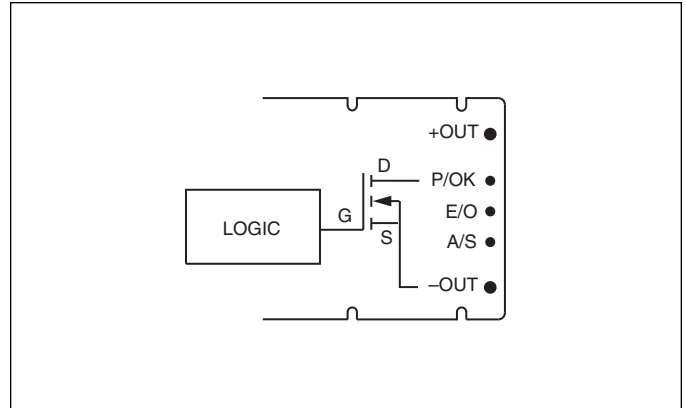
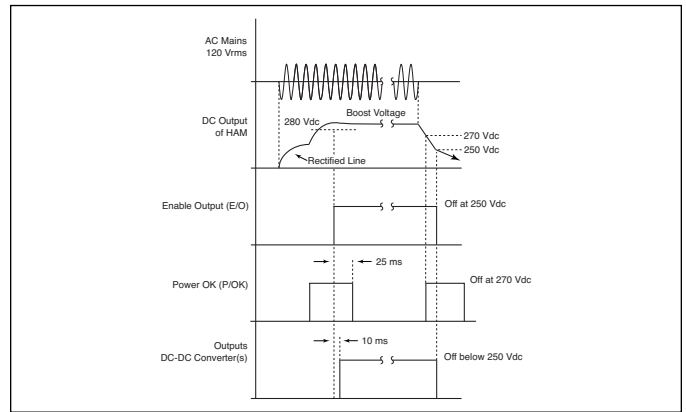

Figure 10-7 — Power OK (P/OK)
Figure 10-9 — Start-up / shut-down timing diagram
**Power OK (P/OK) Pin.** Power OK is a monitor signal that indicates the status of the AC mains and the DC output voltage of the HAM. P/OK is asserted (active low) when the output bus voltage is within normal operating range ( $>270$  Vdc) and 20 – 25 ms after DC-DC converters are enabled by the E/O signal of the HAM. This provides sufficient time for the converters to turn on and their output(s) to stabilize prior to P/OK being asserted, (Figure 10-9). For momentary interruptions of AC power, the HAM will provide at least 16 ms of ride through or hold up time (with 1,000  $\mu\text{F}$  output capacitor). On loss of power or brownout, (when the HAM output voltage drops below 270 Vdc) the P/OK signal will go to an open circuit state (Figure 10-7), signaling an impending loss of input power to the converter modules. P/OK will provide power fail warning at least 1 ms prior to converter shut down. When the HAM output voltage drops below 250 Vdc the converters are disabled via Enable Output (E/O).